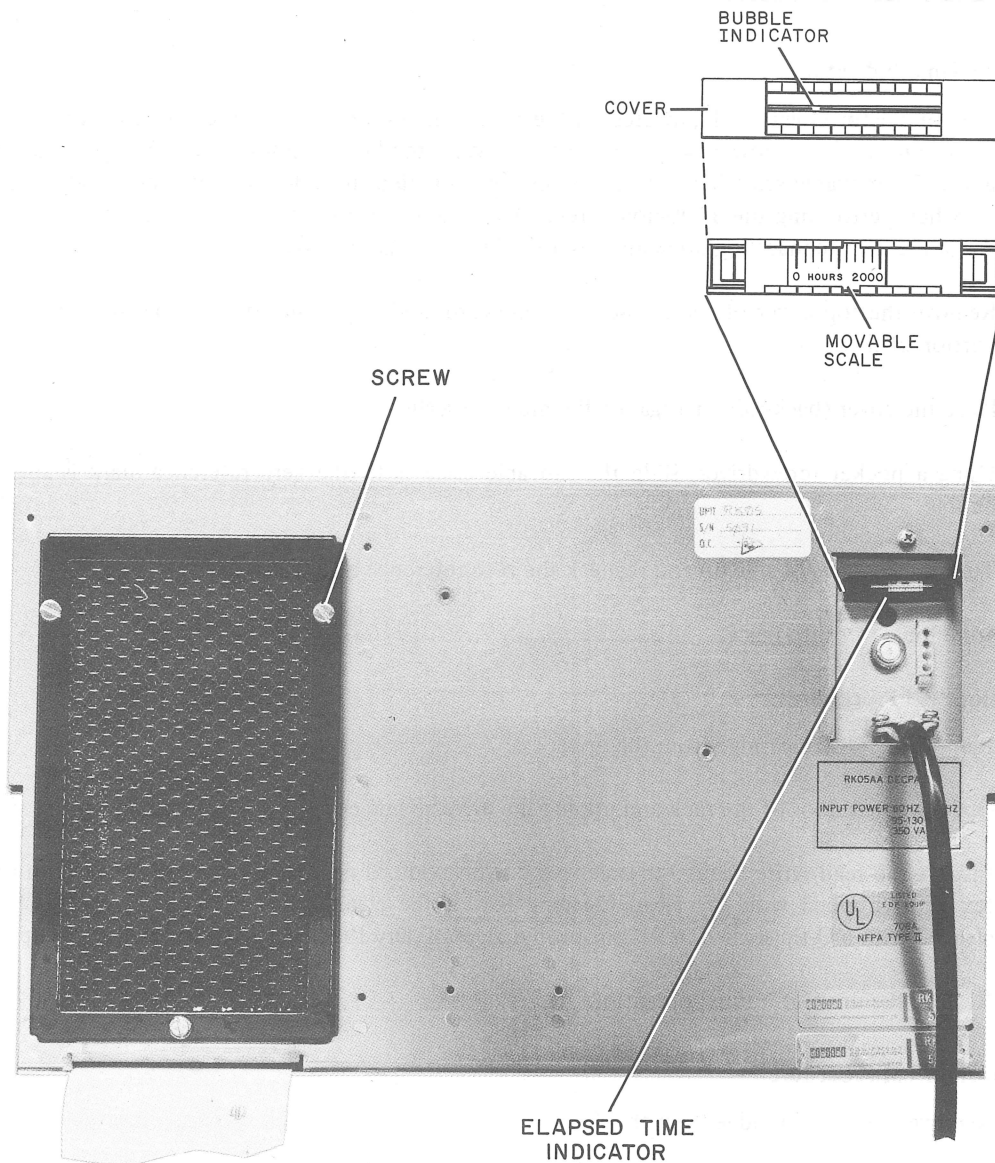

Figure 5-1 Prefilter and Elapsed Time Indicator
The elapsed time indicator (Figure 5-1), located on the rear of the disk drive, indicates the number of hours that the drive has been operating. When power is applied to the drive, a bubble indicator moves from left to right within a mercury column. The movable scale beneath the bubble is graduated in 200-hour increments and furnishes a direct hour read-out. When performing the 1500-hour preventive maintenance procedure, record the data and the elapsed time indication in the maintenance log book and reset the indicator as follows:
5. Vacuum the prefilter outer face (Figure 5-1). If there is excessive dirt on the prefilter, remove the filter and clean it with a mild liquid detergent (e.g., Ivory) and warm water. Using the vacuum cleaner exhaust, air-dry the filter completely before installation.